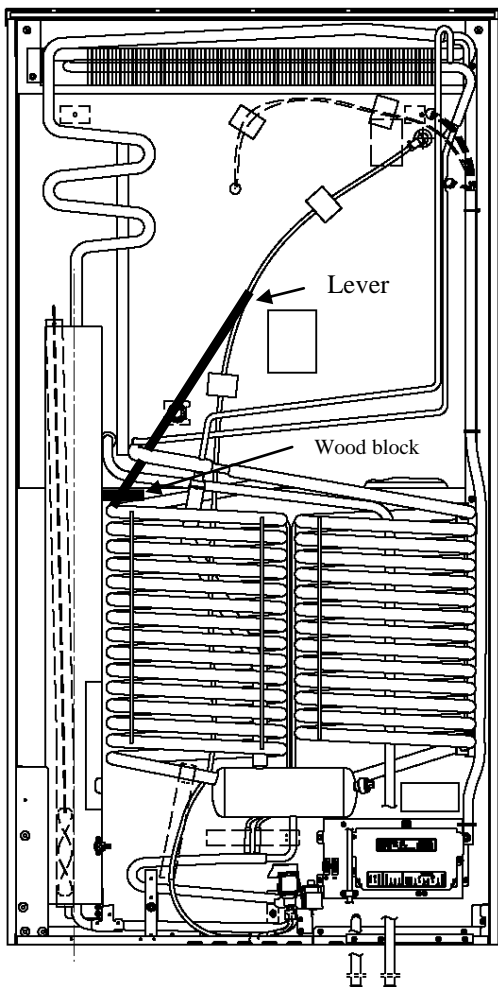

FIG. 8
30. Apply leverage as shown (Fig 8) and pull out carefully.